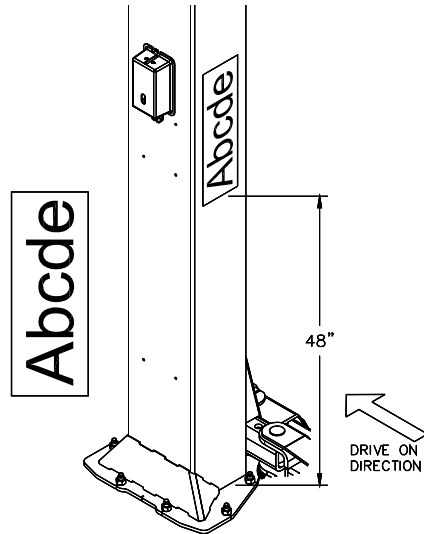

Fig 8 – Decal Placement
- 38) Apply the decal 48" from the top of the base plate, **Fig 8**.